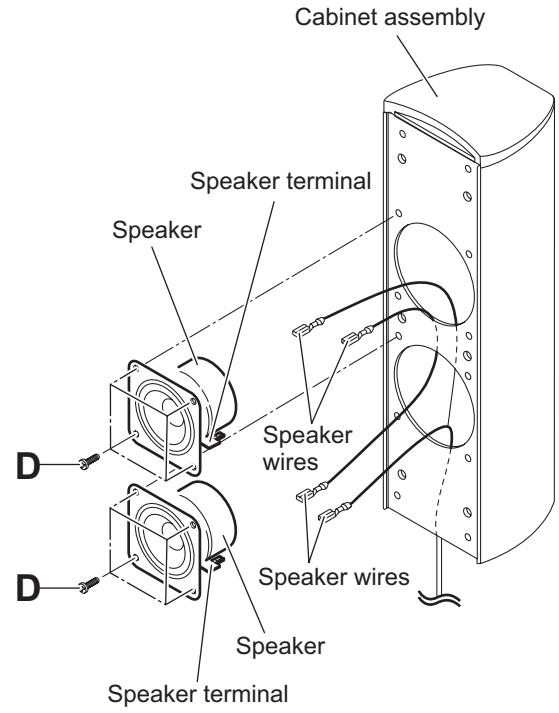

Fig.3
3.4.2 Removing the Speakers (See Fig.3)